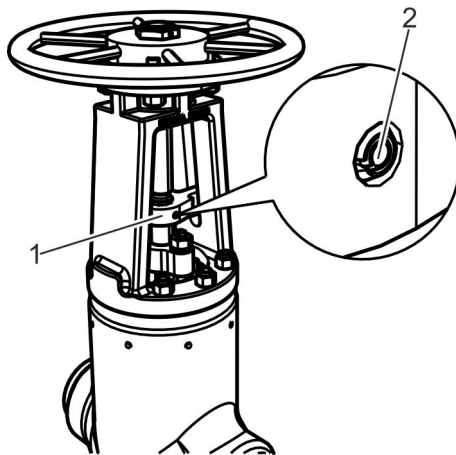

Fig. 21: Detaching the anti-twist device
1. → If the anti-twist device is present: Detach the fastening (Fig. 21/2) of the anti-twist device (Fig. 21/1).